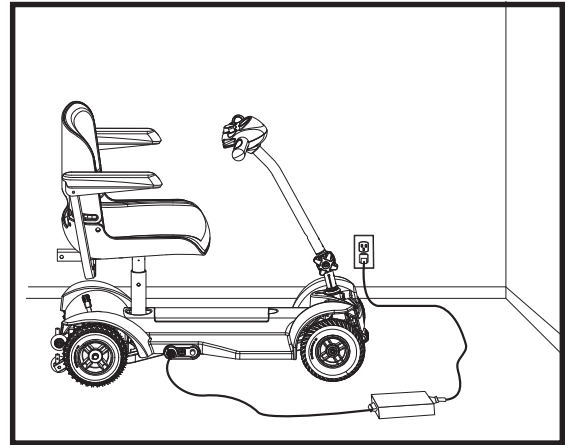

Figure 12. Charging the Batteries
1. Position your Travel Scooter close to a standard electrical outlet. See figure 12.